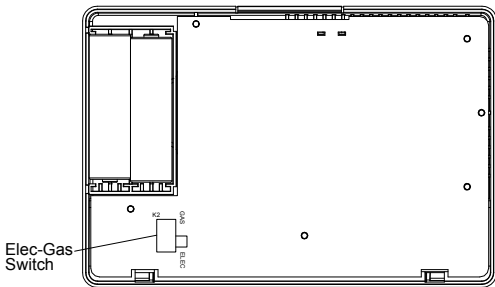

Figure 1. Electric/Gas Switch (Fan Option)
This thermostat is configured from the factory to operate a heat/ cool, fossil fuel (gas, oil, etc.), forced air system. It is configured correctly for any system that DOES NOT require the thermostat to energize the fan on a call for heat. If you system is an electric heat or heat-pump system that requires the thermostat to turn on the fan on a call for heat, locate the ELEC/GAS switch on the back of the thermostat (see fig. 1) and switch it to the ELEC position. This will allow the thermostat to energize the fan immediately on a call for heat. If you are unsure if the heating/ cooling system requires the thermostat to control the fan, contact a qualified heating and air conditioning service person. When the thermostat is configured for Heat Pump, the thermostat will always power the circulator fan on a call for heat in the HEAT mode. The ELEC/GAS switch must be set to match the type of Auxiliary heat your system uses for proper operation in the EMERgency mode. All wiring diagrams are for typical systems only. Refer to equipment manufacturers' instructions for specific system wiring information.
- Fasten base loosely to wall, as shown in fig. 1, using two mounting screws. Place a level against bottom of base, adjust until level, and then tighten screws. (Leveling is for appearance only and will not affect thermostat operation.) If you are using existing mounting holes, or if holes drilled are too large and do not allow you to tighten base snugly, use plastic screw anchors to secure subbase.